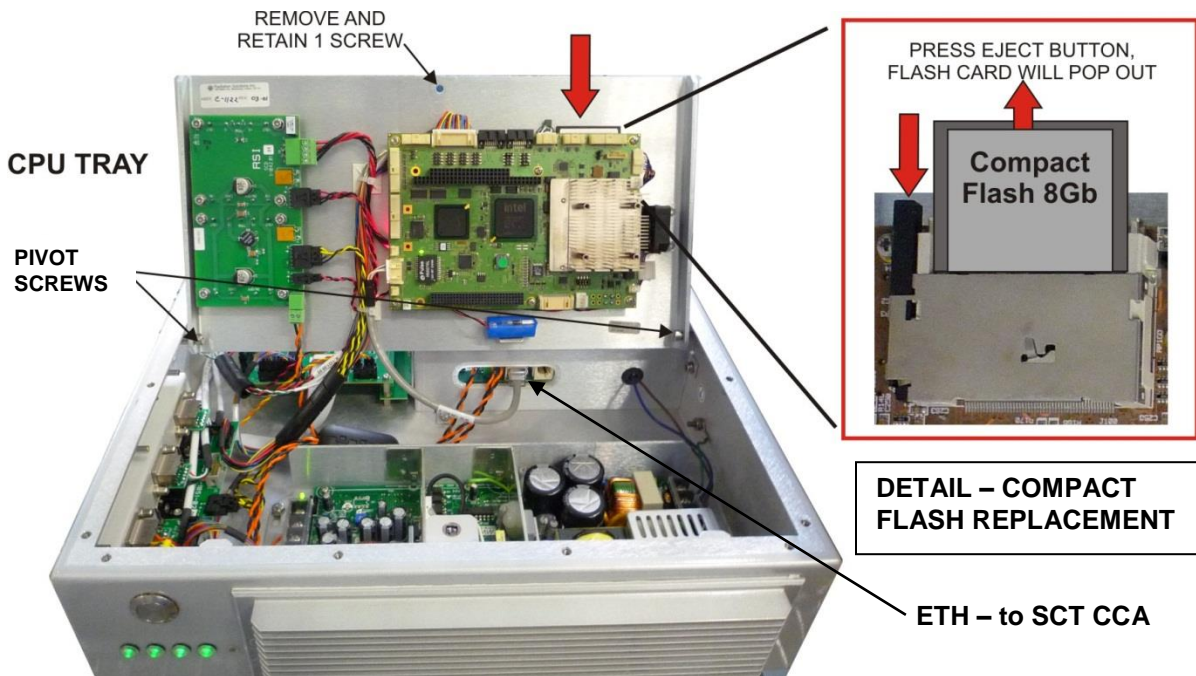

Figure 1 – Compact Flash Replacement
- The **CF Card** is now visible (**red arrow**). Press the eject button (**See Figure 1**) to remove the old CF (mark it “OLD” to avoid confusion) and replace it with the new 8Gb CF Card (SSD-C02G1-4500) making sure it is properly seated.